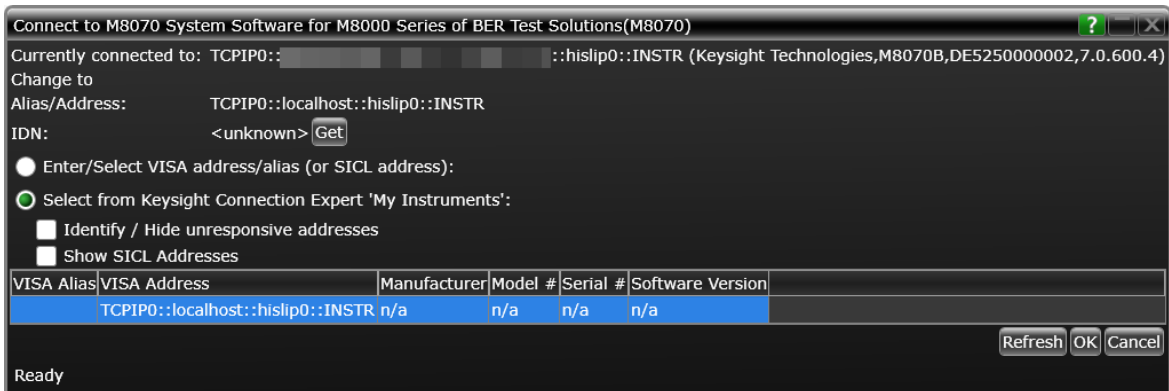

Figure 7 Connecting to M8070B if multiple instances are active
- If the UALink Rx Test Application detects more than one instance of the M8070B software running, the **Connect to M8070 System Software for M8000 Series of BER Test Solutions (M8070)** window appears (Figure 7).